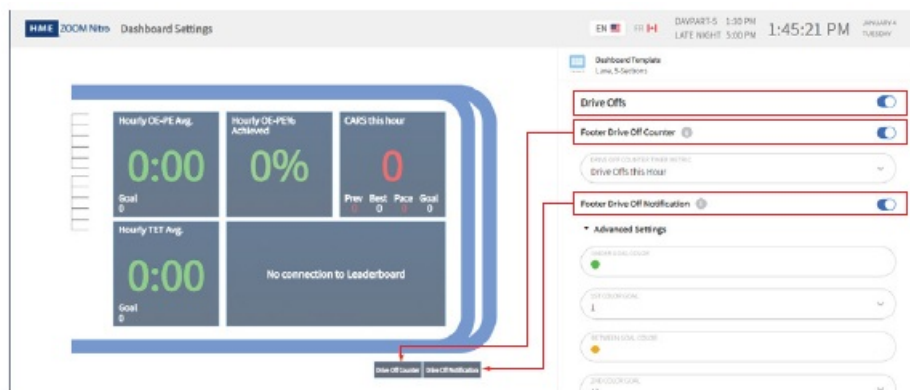

Fig. 5.11
- Toggle all three Drive Off buttons to enable the counter and notifications, see Fig. 5.11